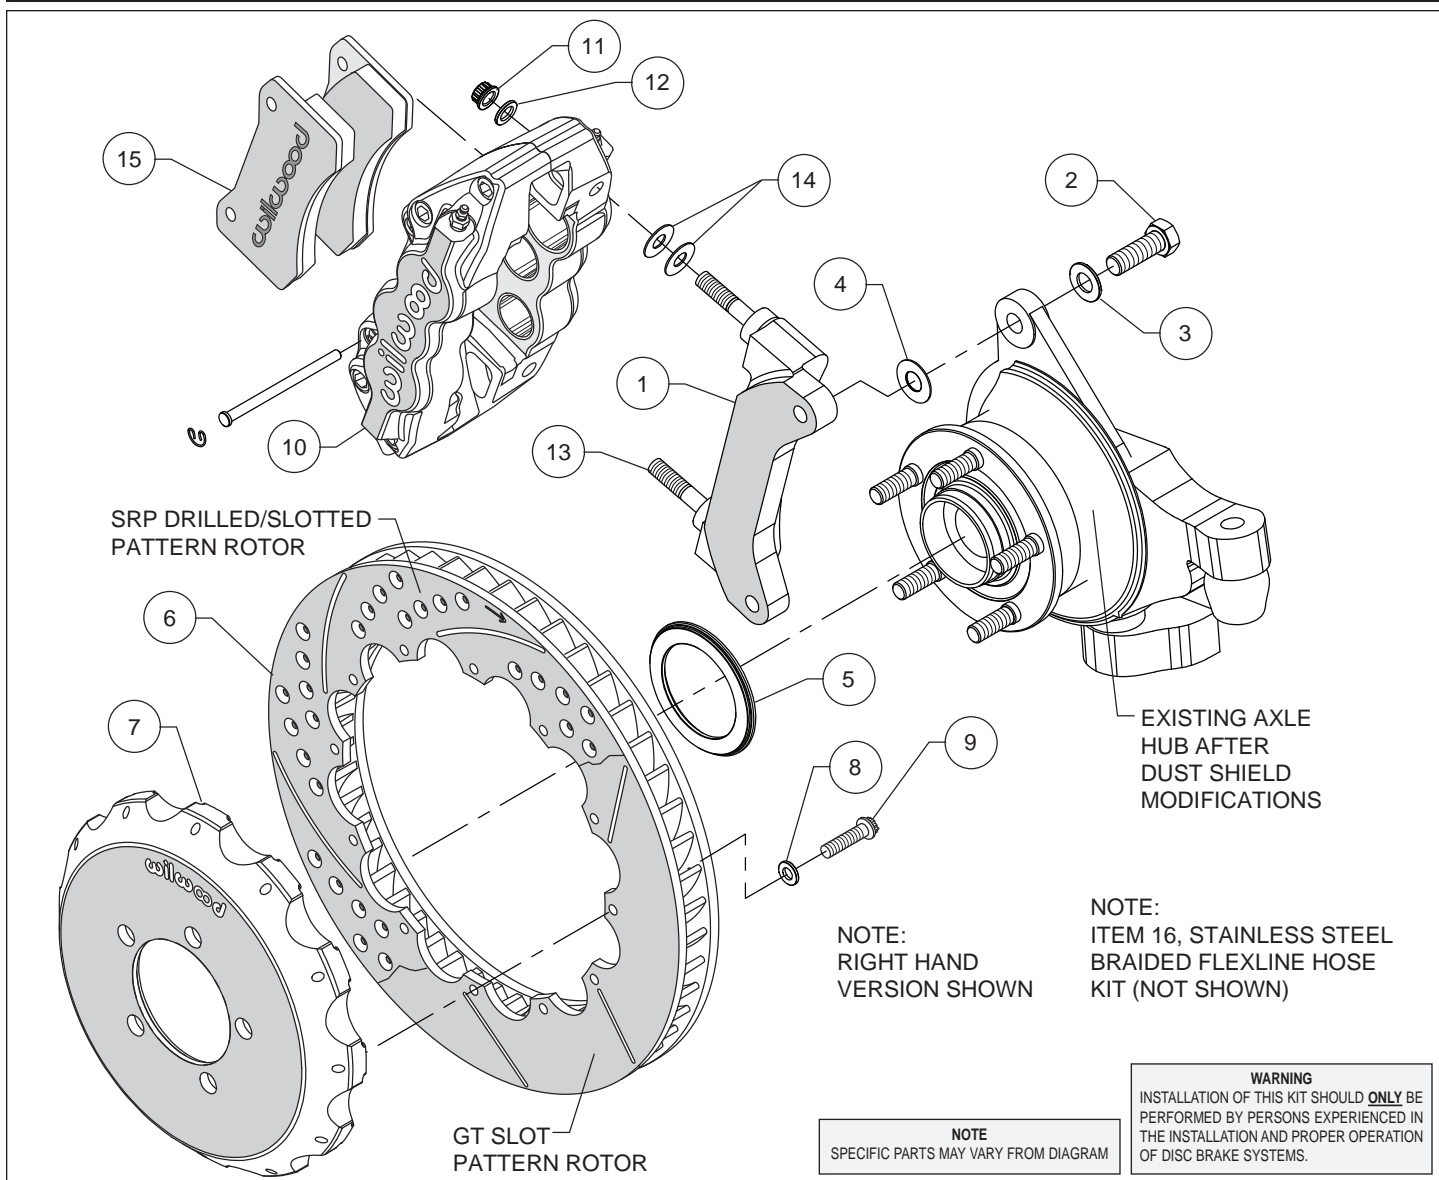
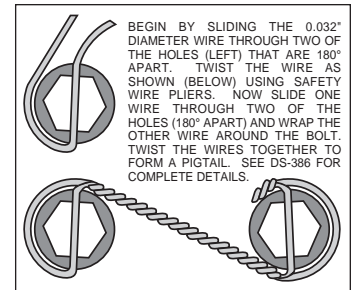

Figure 1. Typical Installation Configuration
Figure 4. Safety Wire Diagram
**Assembly Instructions** (numbers in parenthesis refer to the parts list and Figure 1 on the preceding pages):
- The caliper mount bracket (1) should initially be installed with clean, dry threads on the mounting bolts. Orient the bracket as shown in Figure 1, and install using washers (3) and bolts (2). Initially place one shim (4) on each bolt between the bracket and upright, Figure 1. Temporarily tighten the mounting bolts. **NOTE:** The bracket must fit squarely against the mount bosses on the upright. Inspect for interference from casting irregularities, machining ridges, burrs, etc. Later, after the caliper alignment has been checked, the mount bolts will be secured using red *Loctite*® 271.
- Orient the rotor (6) and the hat (7) as shown in Figure 1 and Photo 1. Attach rotor to hat using bolts (9) and washers (8). Using an alternating sequence, apply red *Loctite*® 271 to the threads, and torque to 155 **in-lbs**. For an added measure of security, the bolts may be safety wired using standard 0.032 inch diameter stainless steel safety wire as shown in Figure 4. Please refer to Wilwood's data sheet DS-386 (available at [www.wilwood.com/Pdf/DataSheets/ds386.pdf](http://www.wilwood.com/Pdf/DataSheets/ds386.pdf)) for complete safety wire installation instructions.
- Slide the rotor registration adapter (5) onto the axle register on the axle hub with the smaller O.D. facing outward, Photo 2. Slide the hat/rotor assembly onto the axle hub. **NOTE:** The hat must fit flush against the axle hub flange or excessive rotor run out may result. Install three lug nuts (finger tight) to keep the hat/rotor assembly in place while continuing with the installation.
- NOTE:** This kit contains distinct right and left hand calipers that must be mounted in a specific direction, as described below. Lubricate the caliper mounting studs (13) with lightweight oil. Initially place two .030" thick shims (14) on each stud as shown in Figure 1 and Photo 3. Mount the caliper (10) onto the bracket (1) using lock nuts (11) and washers (12), Figure 1. Ensure that the caliper is mounted so that the largest pistons are at the rotor exit end of the caliper, in relation to the direction of rotor rotation. Temporarily tighten the lock nuts and view the rotor through the top opening of the caliper. The rotor should be centered in the caliper, Photo 4. If not, adjust by adding or subtracting shims (4) between the bracket and the upright. Always use the same amount of shims on each of the two mounting bolts. Once the caliper alignment is correct, remove the bracket mounting bolts (2) one at a time, apply red *Loctite*® 271 to the threads, and torque to 60 ft-lb.